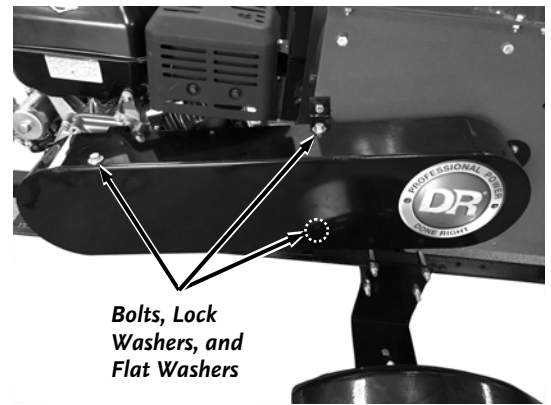

Figure 15
1. Using a 1/2" Wrench, remove the three Bolts, Lock Washers, and Flat Washers supporting the Belt Guard and place the Belt Guard aside. (**Figure 15**).